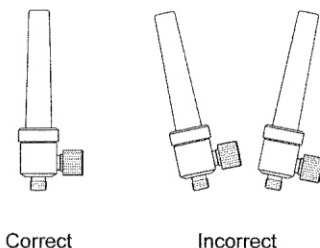

Figure 1
1. Attach flowmeter to a 345 kPa (50 psi) gas source. Ensure flowmeter is in a vertical position (See figure 1).